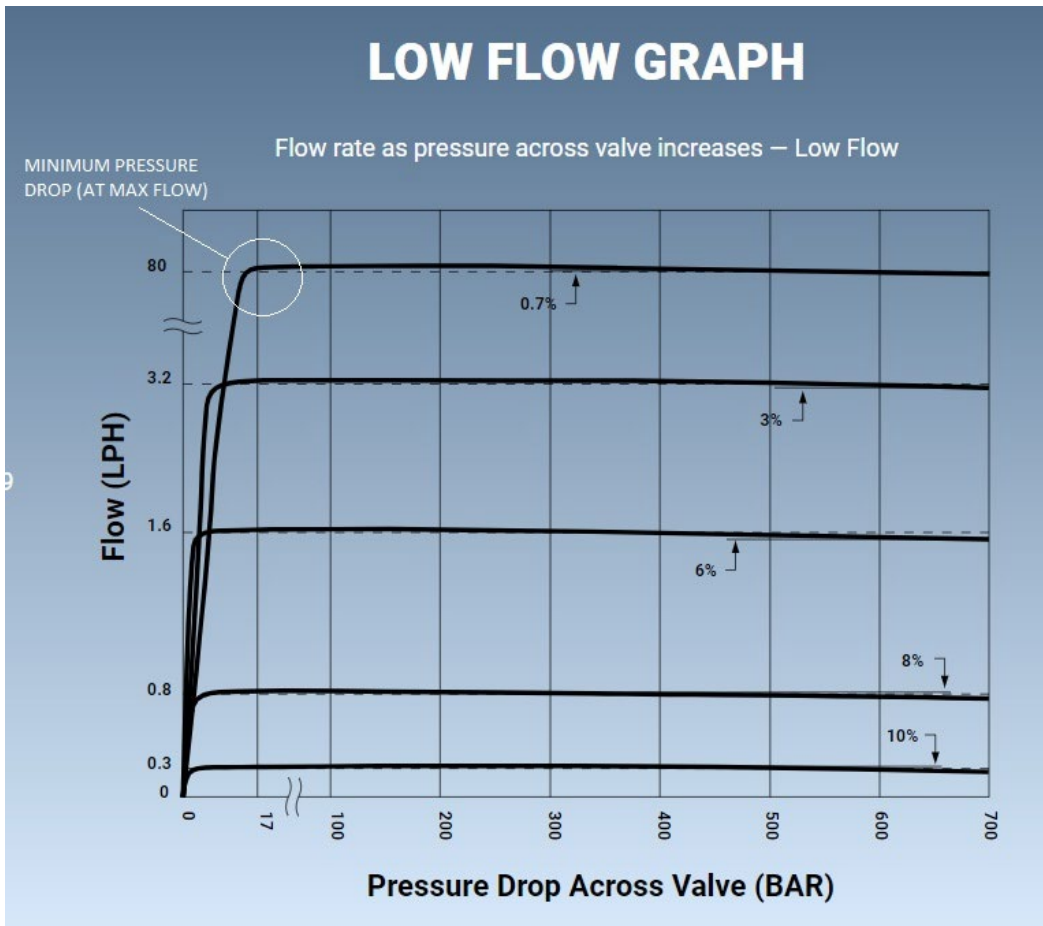
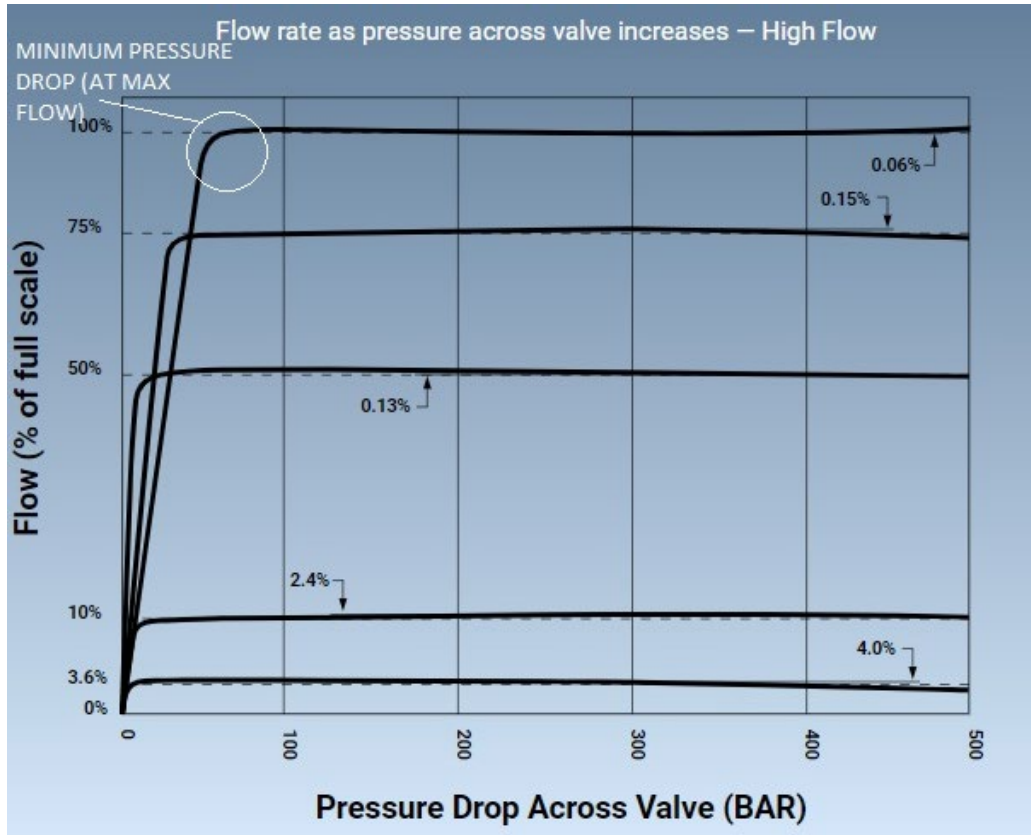

Figure 10: Pressure Independence Curve Low Flow
Figure 11: Pressure Independence Curve High Flow
- 12.3 Figure 10 and Figure 11 depict a simplified graphical representation of minimum pressure drop requirements for LF and HF CIMV cores respectively.